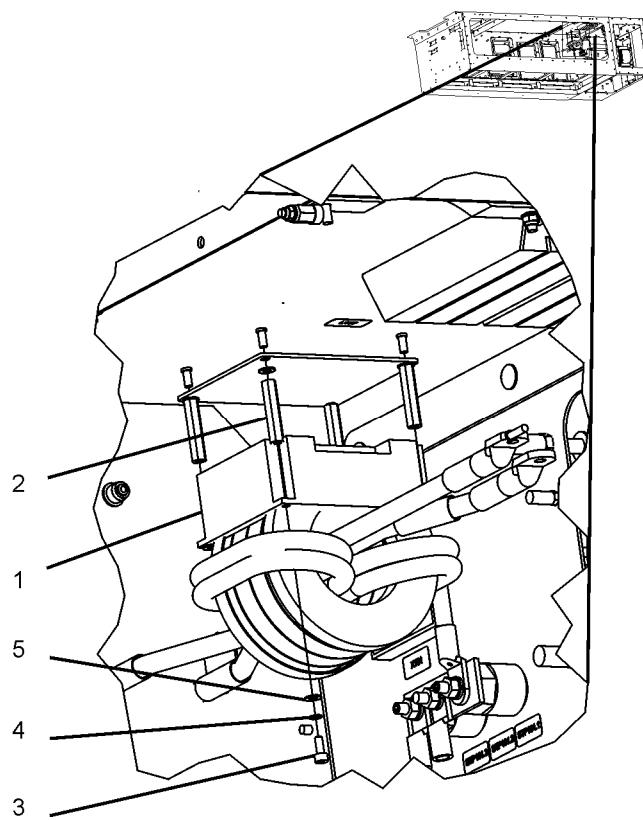

Figure 5-16: L107 Anchor Points
6. Detach L107 (see Figure 5-16). The L107 (1) is suspended from four M4x35 Standoffs (2) at four anchor points and is held in place by M4 screws (3), M4 Schnorr washers (4) and M4 flat washers (5) at each point. Remove these fasteners to detach the L107.
7. Remove L107 Choke. To extract the L107, pull straight down on the component (1) until it clears the standoffs (2). Then manipulate the component sideways behind the C101 Capacitor and A103 Dead Battery Start module. After then extract the choke from the unit.
2. Insert L107 Choke (see Figure 5-16). Manipulate the choke into the converter above the SRC Module and then around behind the A103 and C101. Orient the L107 Choke (1) so that it is seen as shown in the figure.
3. Attach L107 (see Figure 5-16). The L107 (1) is suspended from four M4x35 Standoffs (2) at four anchor points and is held in place by M4 screws (3), M4 Schnorr washers (4) and M4 flat washers (5) at each point. Affix these fasteners to attach the L107. Tighten the screws to 23 lb-in (2.6 Nm) of torque.